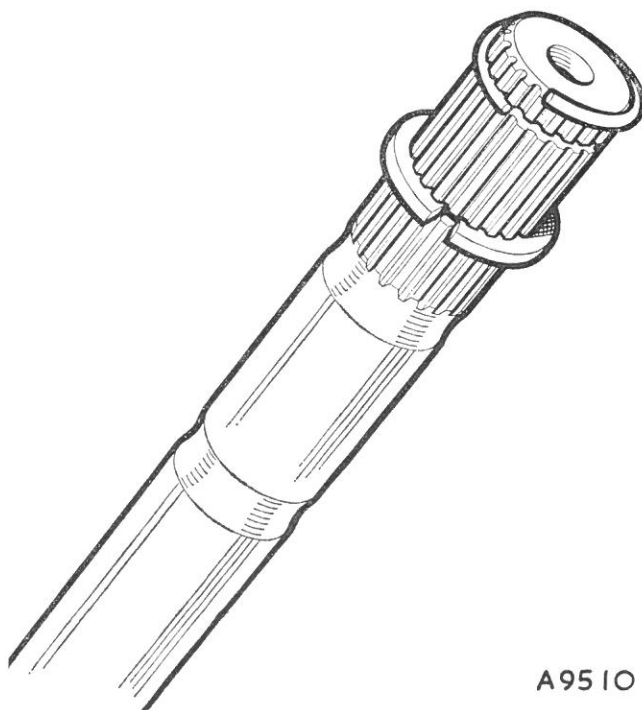

Fig. G.5
- (24) Replace the round-section spring ring with a new one (Fig. G.5). If replacing the shaft, fit a new circlip.